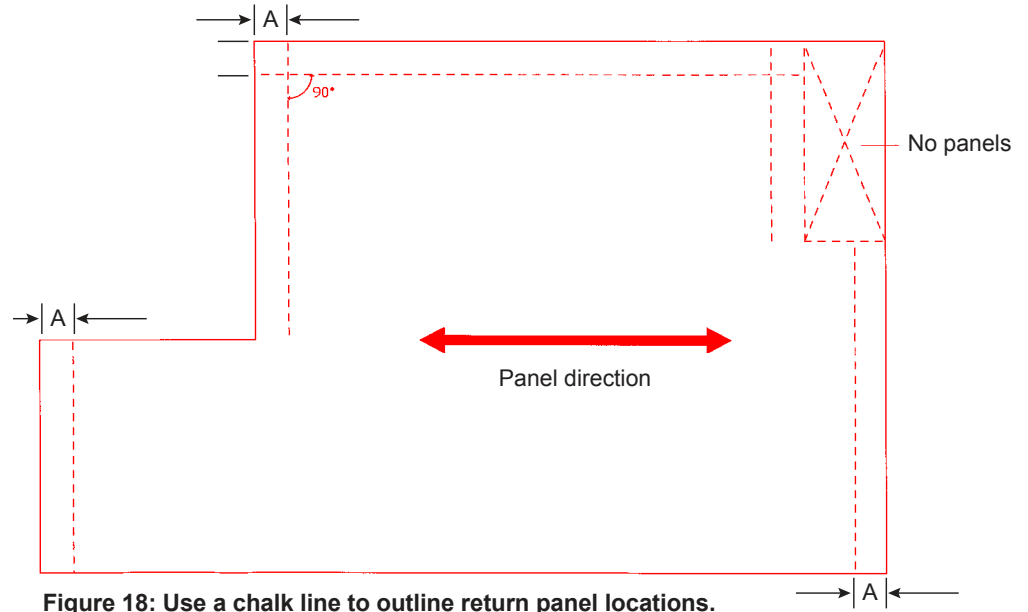

Figure 18: Use a chalk line to outline return panel locations.
3. Snap a chalk line to outline each of the return panel walls (see **Figure 18**).